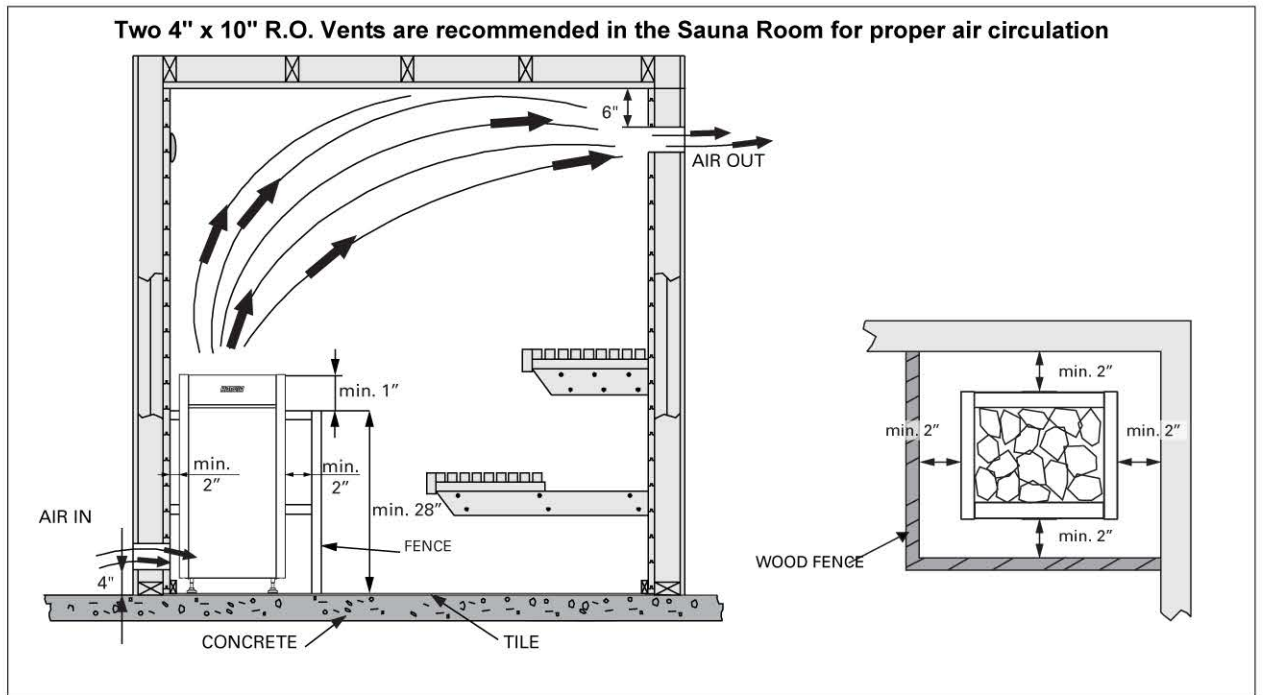

Figure 3. Ventilation of the sauna room and min. clearances from wall and fence
The minimum safety distances are described in figure 3 and 5.
It is necessary for safety and should be constructed of softwood to match sauna interior. See figures 3 and 5 for clearances from sauna heater. Fence should be attached to wall and should not be placed higher than top of heater below rock line.
1. Remove heater from carton and place in proper location in sauna room. Observe proper clearances as per figures 3 and 5.